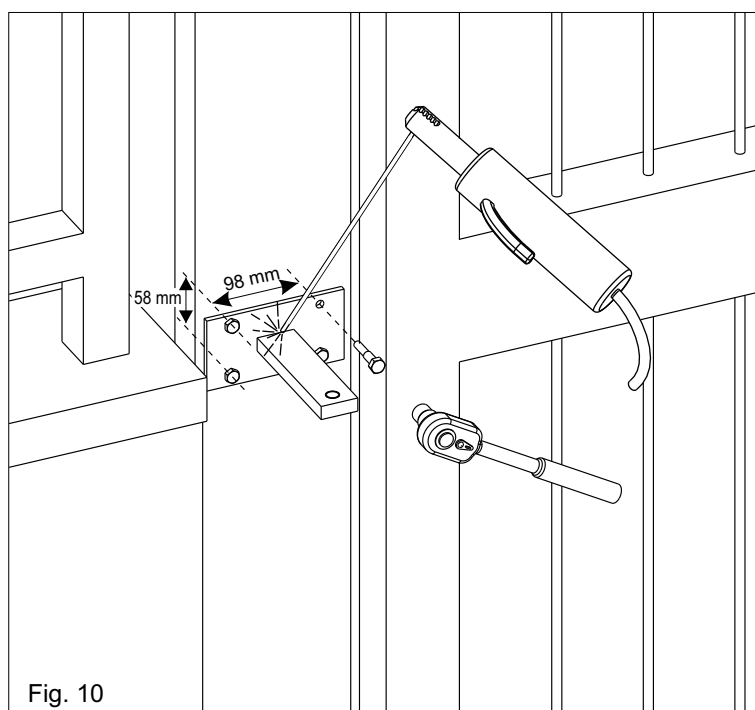
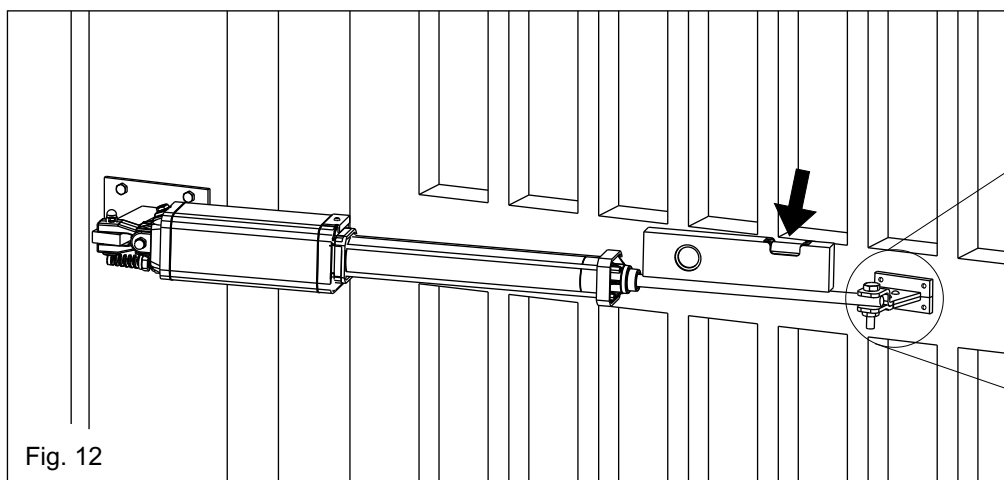

Fig. 10
Fig. 12
According to the type of opening that you have chosen (inside or outside) and to the chosen leaf rotation (see pag. 16), the rear bracket must first be cut respecting the quote "a" on pag. 16 and then welded as in fig. 10.
The support must be positioned so that the operator is perfectly levelled (Fig. 10, Fig. 12)
4. Set the operator perfectly levelled and mark the position of the front bracket (Fig.12)